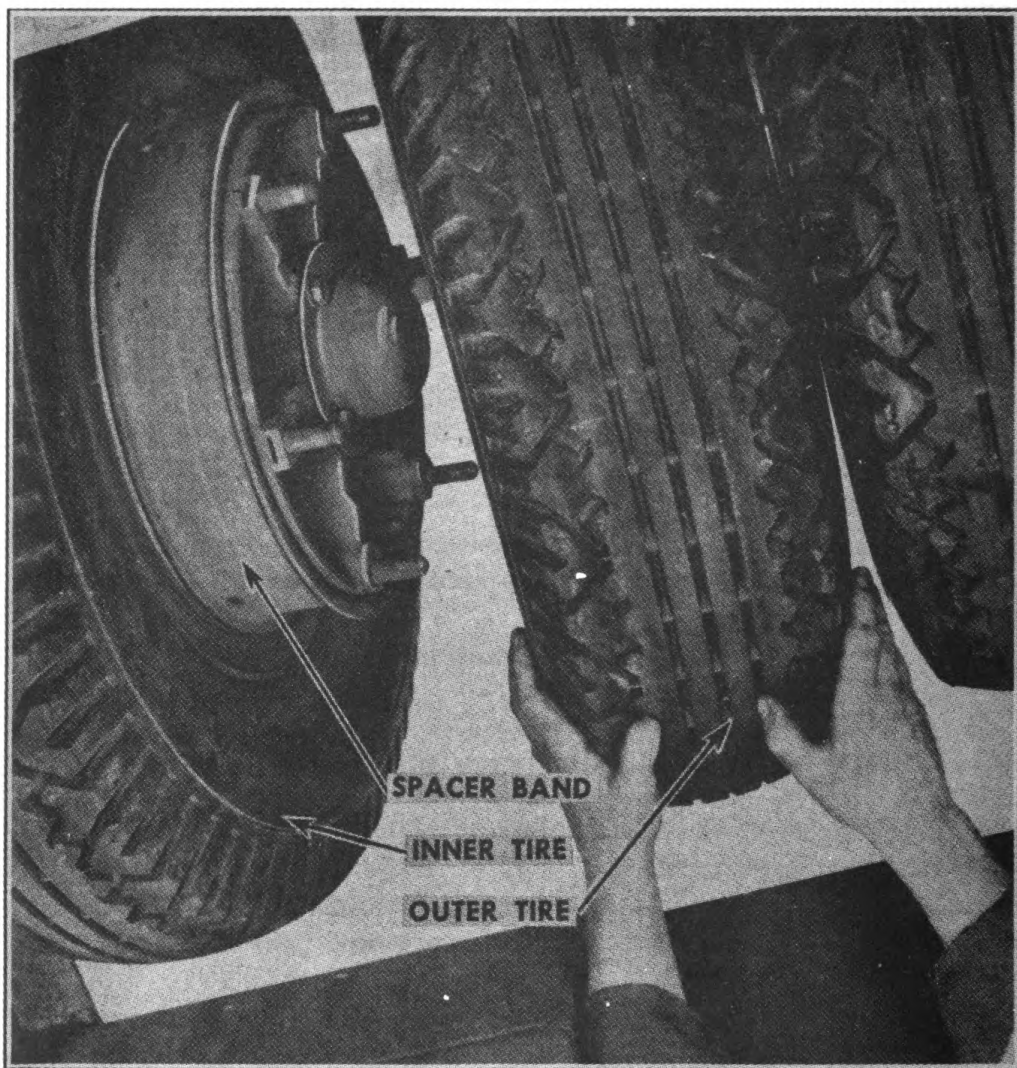

FIGURE 48. REAR TIRE REMOVAL
- (3) Lift tire out as shown in Figure 48.
- (4) Tap off spacer band and work inner tire off wheel.
- (5) To replace, reverse the removal procedure.